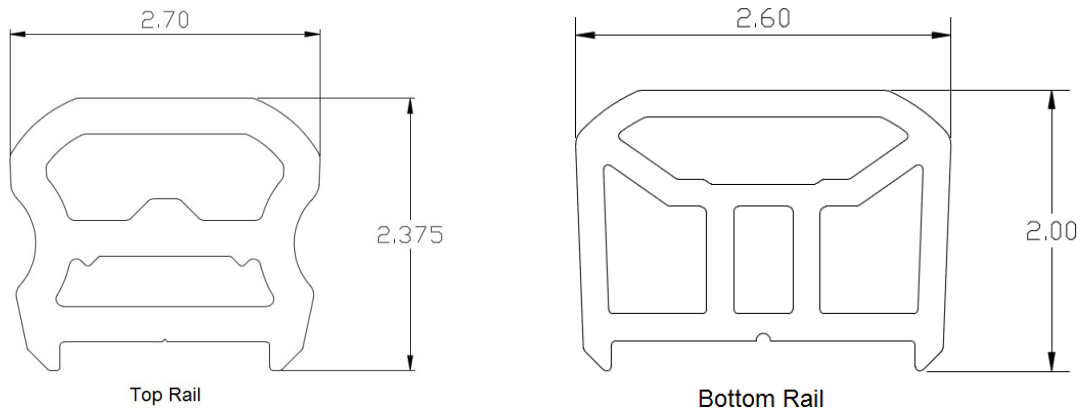

**FIGURE 3 – CLASSIC COMPOSITE SERIES DRINK RAIL**
(1) Deck board profiles permitted to be used as top rail cap are the TimberTech® solid deck boards recognized and listed in Intertek Code Compliance Research Report, CCRR-0128 and CCRR-0101 Grooved and scalloped deck boards shall not be used for top rail caps. See Figure 3 and 4 for limitations.